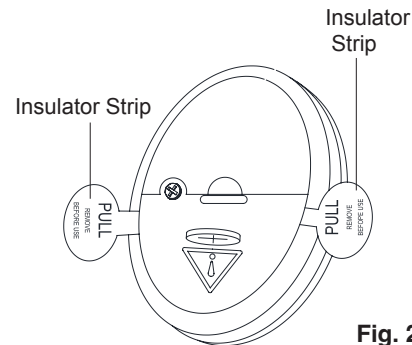

Fig. 21
Step 1. To activate the transmitter, carefully pull the insulator strips out of the transmitter to activate the two pre-installed CR2032 3V button/coin cell batteries. Discard insulator strips. (Fig. 21)